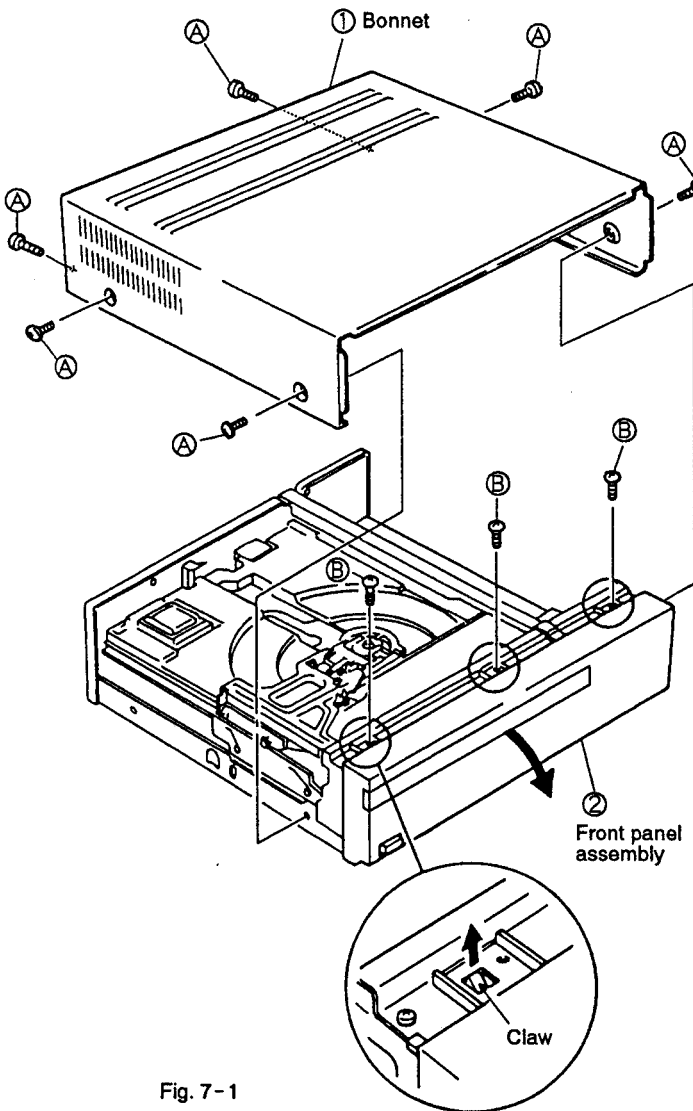
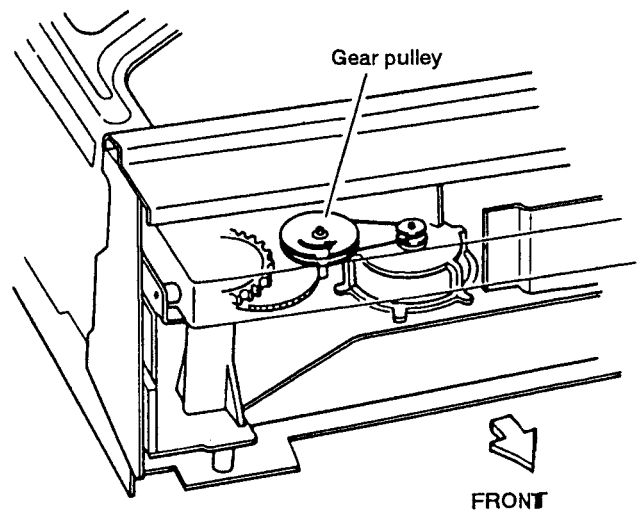

Fig. 7-1
Fig. 7-3
## 7.1 REMOVING THE BONNET AND FRONT PANEL (Fig. 7-1, 2)
- ② When the power cannot be turned ON, remove the front panel (Fig. 7-1), and turn the gear pulley shown in Fig. 7-3 counterclockwise, and the tray will slide out toward the front.